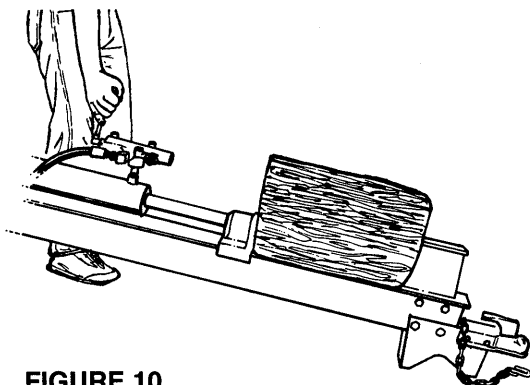

FIGURE 10.
Use the log splitter only on a level, hard surface. Never stand next to the ram when operating the log splitter. Always stand behind the ram. See figure 10. Never attempt to cut a log in half sideways. Always split the log lengthwise. Maximum length of log to be split is 25".
4. Remove your hand from the log and step behind the ram. See figure 10.